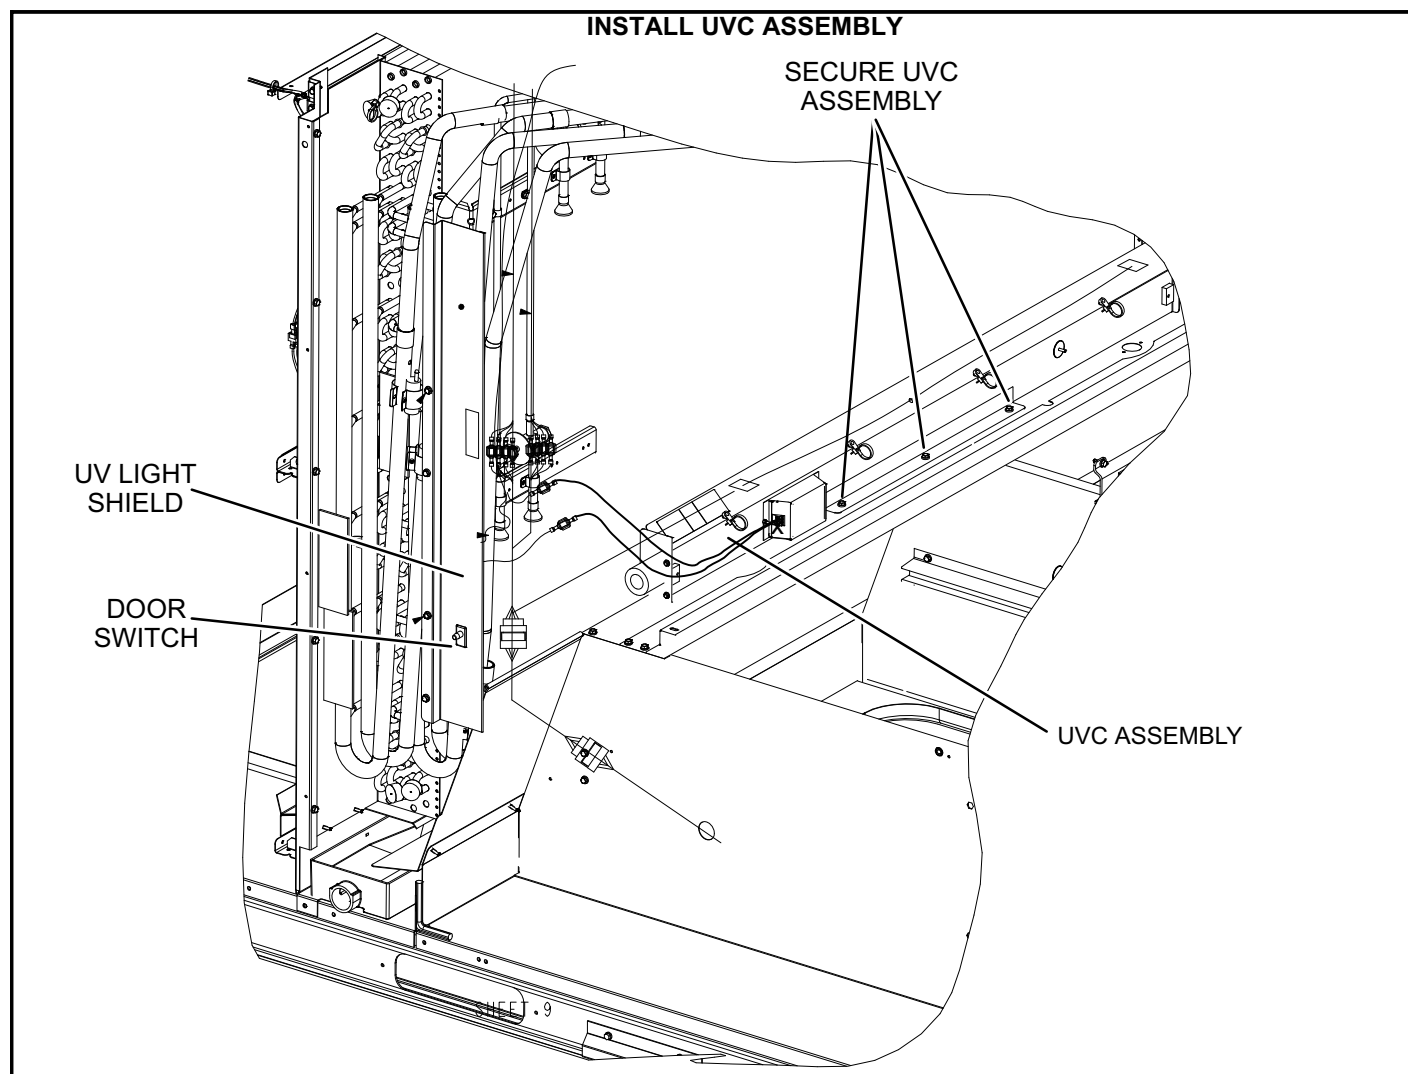

FIGURE 2
- 3- Carefully place the UVC assembly on the blower deck. Line up the mounting holes on the UVC assembly with the mounting holes on the blower deck. See figure 2. Use the self tapping screws provided to secure the UVC assembly in place.